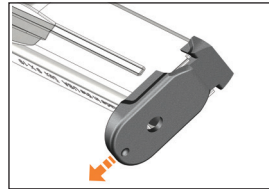

Figure 30
3. Slowly slide the floorplate forward off the magazine housing (see Figure 30).